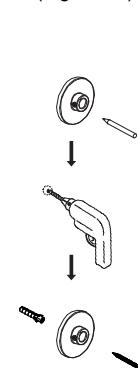

Figure 12
- Install the wall holder on the marked position (Figure 12). Cover the thermostatic shower bar to prevent the dust.